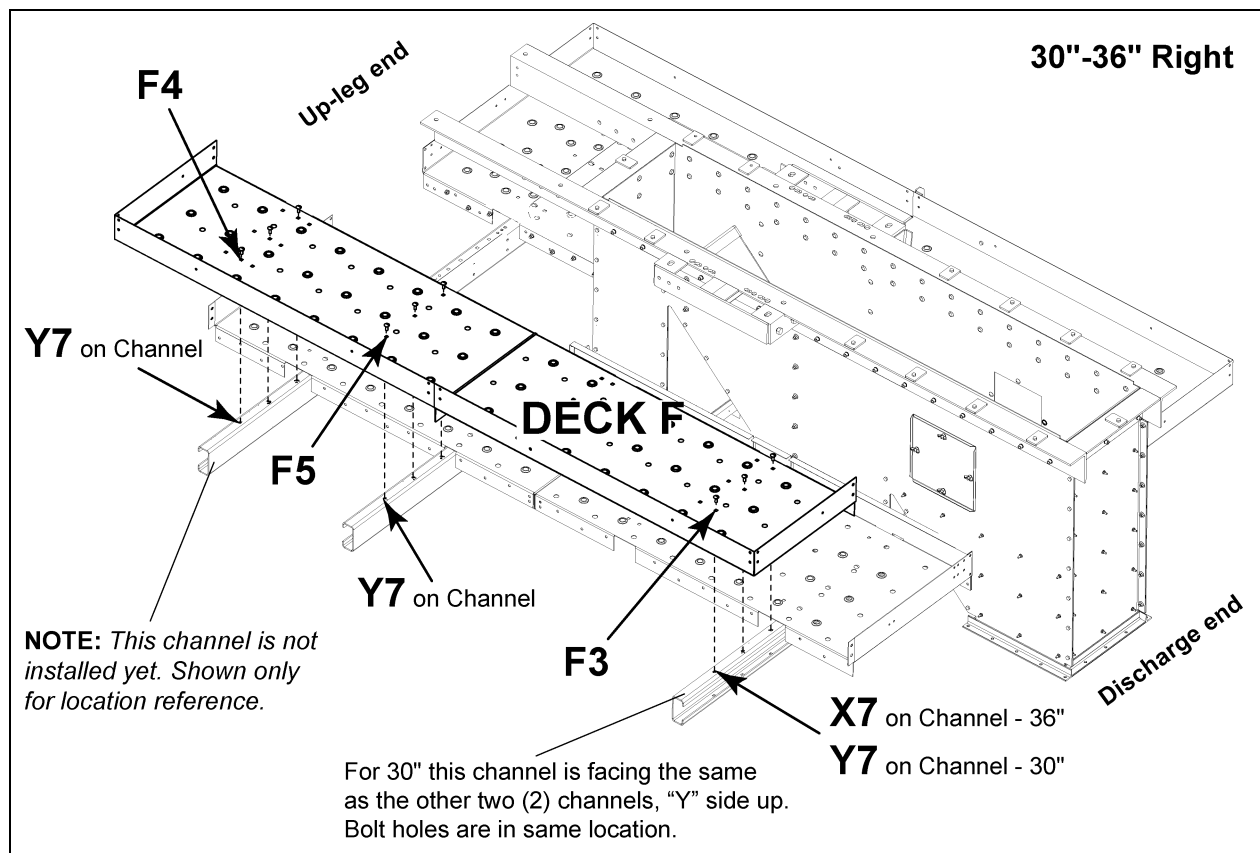

Figure 8L Deck F to Cross Deck Support Channel
1. Locate pre-assembled Deck F. This deck consists of two (2) planks.
2. Orient Deck F with hole **F3** at the discharge end of the lower head and **F5** at the up-leg end. *(See Figure 8L.)*
- a. At the **drive side** - channel hole **Y7** on the cross deck support channel to deck hole **F4**. (See Figure 8L on Page 56.)